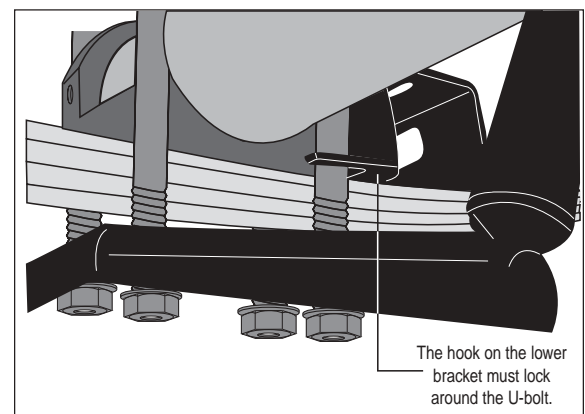

Figure 4
2. Set upper bracket (B) over the fitting and thread post (Figure 4). Position the elbow towards the front or rear of the vehicle depending on which direction will allow easier access for the air line.
1. With the vehicle at normal ride height, set the air spring assembly on the leaf spring behind the axle. The hook end of the lower bracket (C₁, C₂) must lock around the U-bolt to avoid moving along the leaf spring (Figure 4).